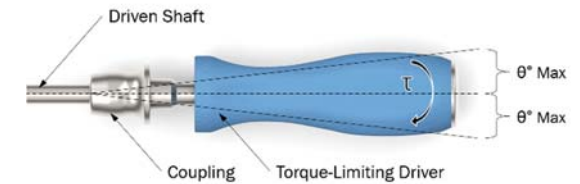

Figure 1 - Axial Torque-Limiter
- Align the axis of the torque-limiter with the axis of the driven fastener. The angle θ° is the deviation symmetrically about the axis of the fastener. This angle, θ° , should not exceed 5° as shown in Figures 1 through 3.
- Apply a rotational force (τ) to the handle in the clockwise (CW) direction along the aligned axes. This force should be applied continuously and consistently until the torque-limiter actuates. The actuation is characterized by an audible and tactile click. The torque-limiter should be actuated in the span of approximately 1 second.